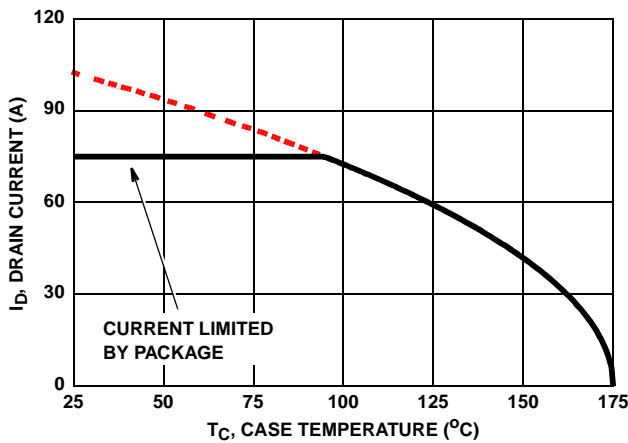

FIGURE 9. MAXIMUM CONTINUOUS DRAIN CURRENT vs CASE TEMPERATURE
**NOTE: Calculated continuous current based on maximum allowable junction temperature. Package limited to 75A continuous, see Figure 9.**